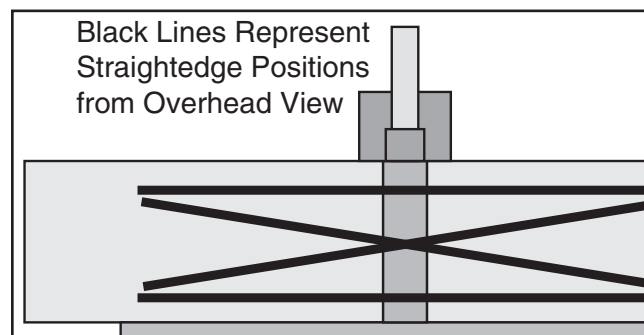

Figure 56. Straightedge positions for checking infeed/outfeed table parallelism.
- Place straightedge in one of the positions shown in **Figure 56**, and adjust eccentric bushings under infeed table so straightedge lies flat against both tables.